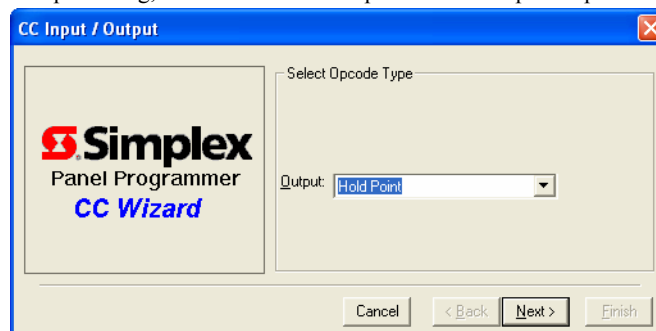

Figure 6-54. CC Input/Output Dialog
5. Double click on the interface card's icon, The Properties sheet for the card appears as shown in Figure 6-54.